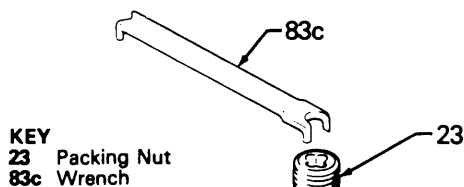

Fig 8
Apply air to cylinder air port of the gun. Adjust the packing nut (23) with the wrench (83c) supplied (See Fig 8) until there is light packing resistance on the needle.
Remove the packing nut (23) from the rear of the barrel using the wrench (83c) supplied. See Figs 8 and 11. Remove the insulator (44) from the gun barrel.
Insert the needle shaft assembly into the barrel and tighten packing nut (23) with wrench (83c) supplied. See Figs 8 and 11. Pull the needle back out of the barrel.